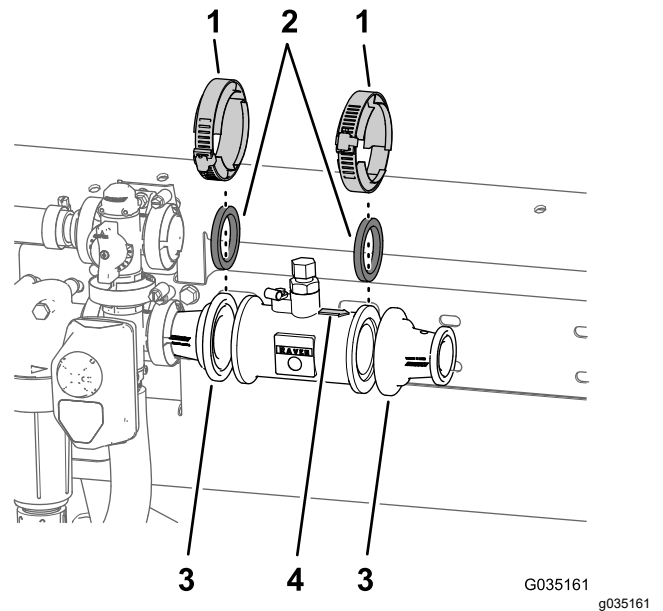

Figure 55
- A. Align the gasket (2-1/4 inches) that you removed in step 2 B of Removing the Coupling Tube and Reducer Adapter \(page 19\) between the flow meter and the reducer adapter that is installed at the right side of the master-control valve (Figure 55).
- B. Loosely assemble the gasket, flow meter, and reducer adapter (Figure 55) with a flange clamp 76 mm (3 inches) that you removed in step 2A of Removing the Coupling Tube and Reducer Adapter \(page 19\).
- C. Align the gasket (2-1/4 inches) and reducer adapter that you removed in step 2C of Removing the Coupling Tube and Reducer Adapter \(page 19\) to the end of the flow meter to which the directional arrow points (Figure 55).
- D. Assemble the gasket, flow meter, and reducer adapter (Figure 55) with a flange clamp 76 mm (3 inches) that you removed in step 2A of Removing the Coupling Tube and Reducer Adapter \(page 19\).